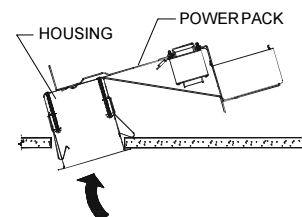

FIG.6
1. Slide the power pack and the housing together into the ceiling. Snap into place. (Fig.6)